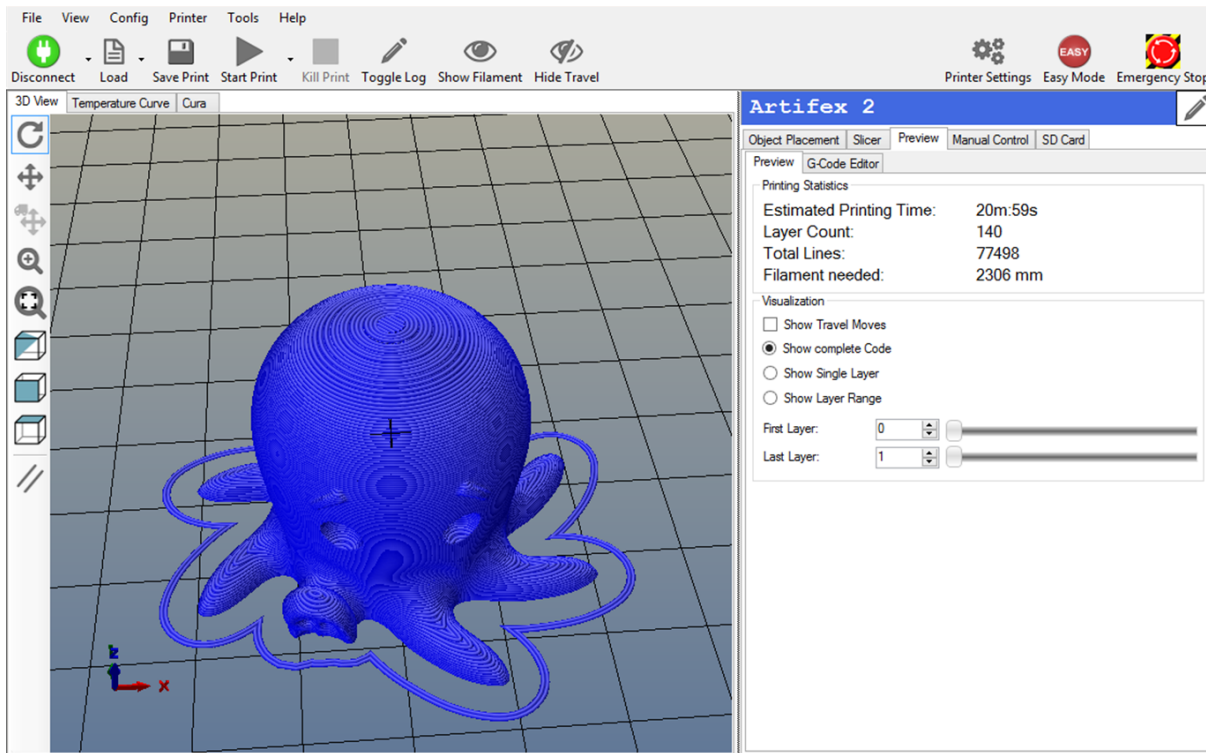

Figure 3.12: Previewing G-code generated by CuraEngine
- After setting up the slicing parameters, click “Slice with CuraEngine” button, and after the slicing is completed, the G-code is previewed in Repetier-Host as shown in Figure 3.12.